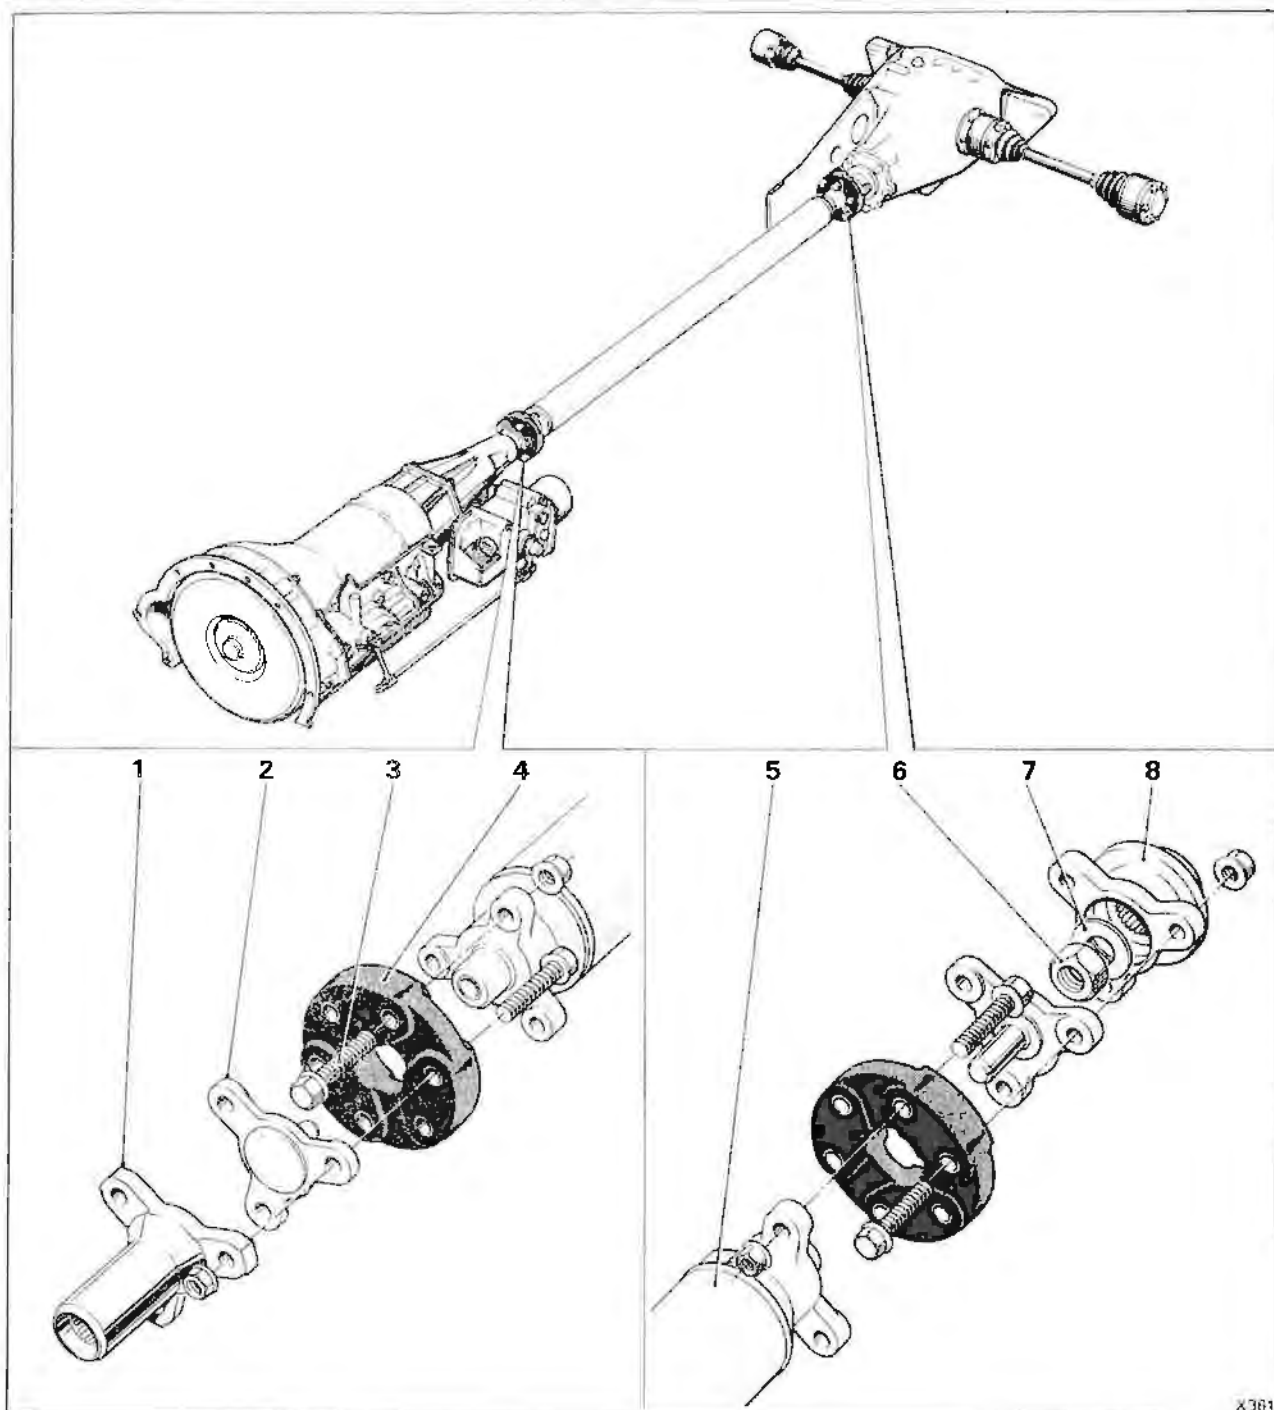

Fig. 1
From the above vehicle identification numbers a new propeller shaft incorporating flexible rubber couplings is being fitted (see fig. 1). This service information sheet has been issued to explain the changes which have been made with the introduction of this new feature.
Three-point fixing flanges are welded to each end of the new propeller shaft and incorporate a centralizing bush. A flexible rubber coupling is bolted to each of the three-point fixing flanges. Utilizing the other three mounting holes in the rubber coupling, the propeller shaft is bolted to the gearbox out-put flange at one end and to the axle pinion flange at the other. Sandwiched in this part of the mounting is a spigot flange, which ensures that the propeller shaft is centrally located (see fig. 1).
1. Place the propeller shaft through the rear sub-frame crossmember and fit the rubber couplings to the propeller shaft (see fig. 1).
It is important that the arrows moulded in the circumference of the rubber couplings point towards the joint face between the coupling and the shaft and not to the bolt head (see fig. 1).